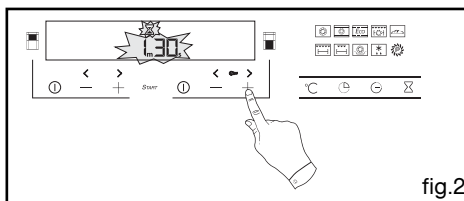

fig.2
- Adjust the chosen time by pressing the + ou - buttons (fig.2).
-> access to the oven controls is now locked (fig.2).